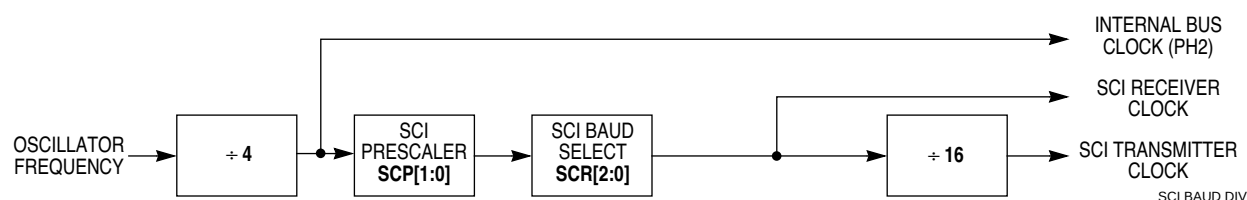

**Figure 5-7 Rate Generator Division**
The diagram shown in **Figure 5-7** and the data given in **Table 5-3** and **Table 5-4** illustrate the divider chain used to obtain the baud rate clock. Note that there is a fixed rate divide-by-16 between the receive clock (RT) and the transmit clock (Tx). The actual divider chain is controlled by the combined SCP[1:0] and SCR[2:0] bits in the baud rate register as illustrated.